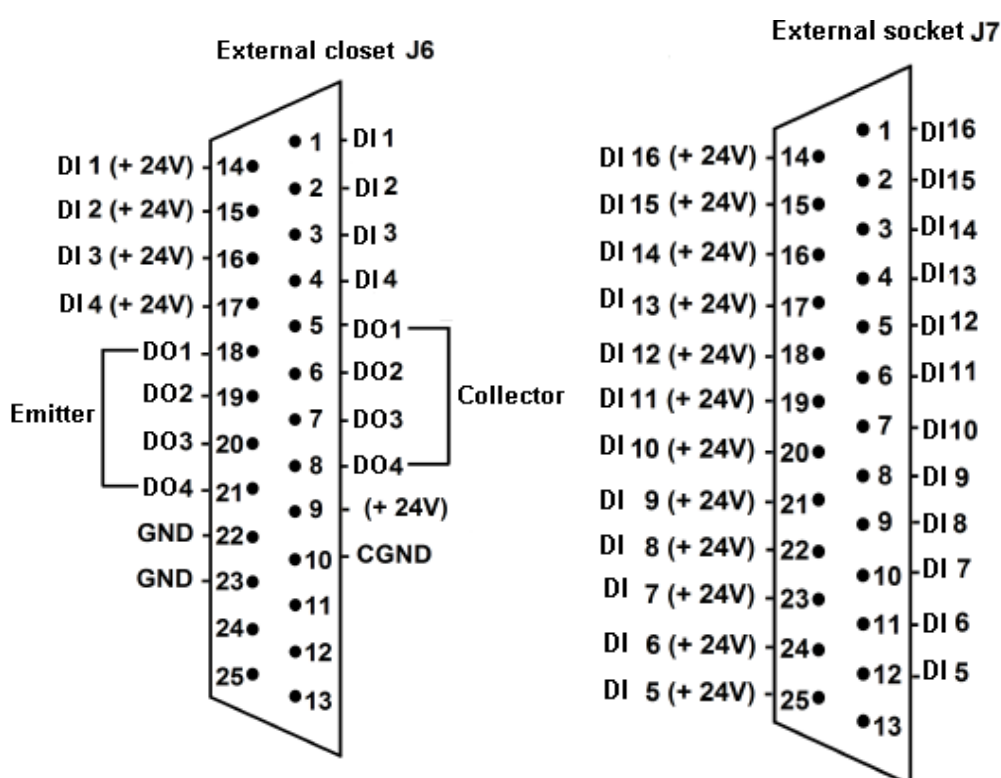
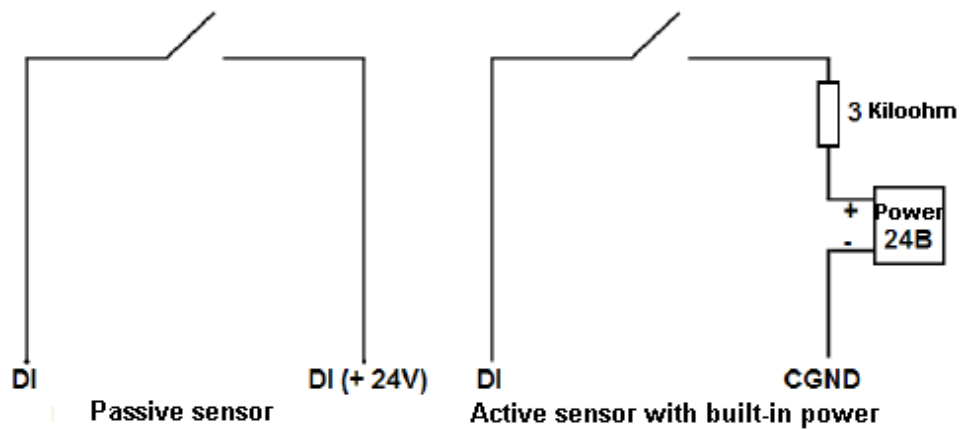
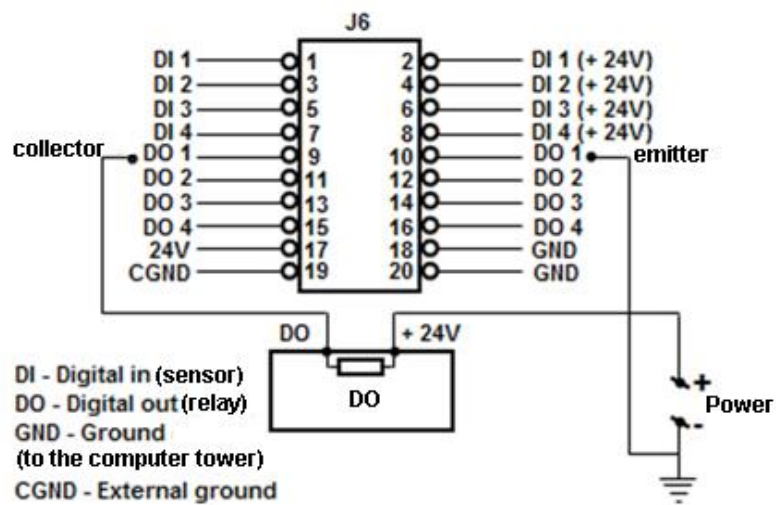
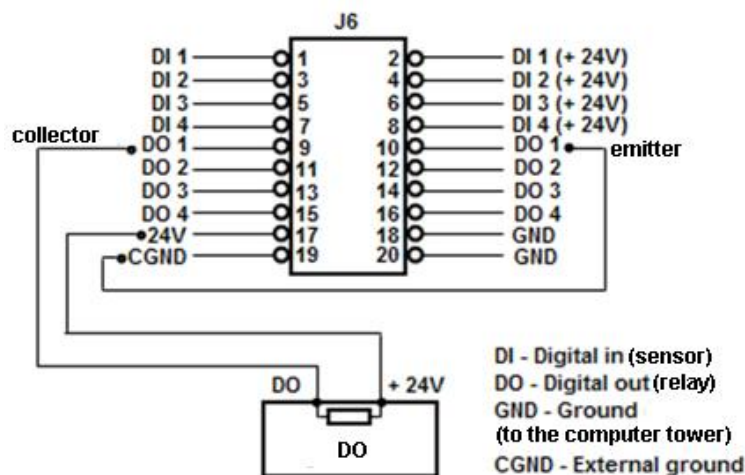

Figure 2.4-9 External connector pinout of the DI/DO interface cable
Figure 2.4-10 DI types and features of their connection
Figure 2.4-11 Example of power DO connection (with external power supply)
Figure 2.4-12 Example of low-power DO (power supply on the card)
5. To connect DI/DO, unsolder the connector included in the distribution kit of the DI/DO card. Unsoldering is made in accordance with the external connector pinout of the DI/DO interface cable, taking into account power circuit of connected devices (Figure 2.4-9, Figure 2.4-10, Figure 2.4-11, Figure 2.4-12).